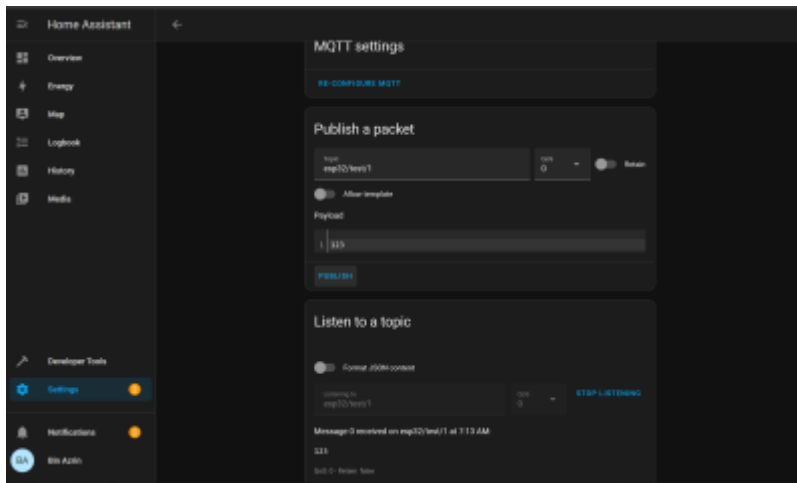

Figure 22: Testing whether the MQTT broker is functioning, source: own image – Ainul Danish
- **Testing the broker:** Any sample topic was added in the publish and listening field (ensure that the topic is the same in both the fields). Proceeded with clicking on Start Listening. In the payload field, any message was typed in and clicked on Publish. The same message received and appearing at the bottom (Fig 22) confirms the working of the broker.